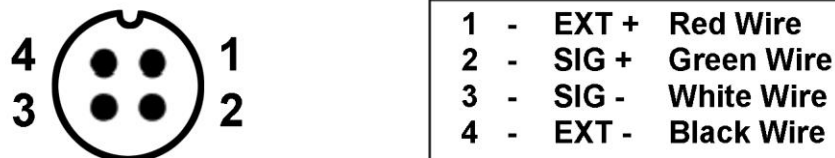

FIG 3
b. Alternatively, instead of using the shielded load cell cable supplied, a cable may be assembled with the pin assignments shown in FIG 3: